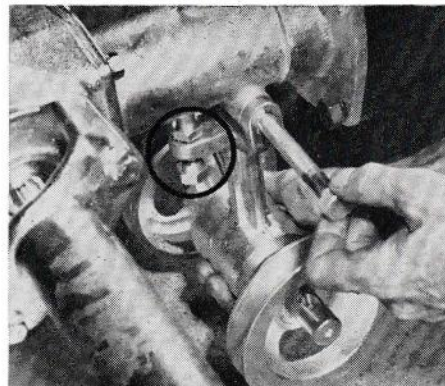

Figure 20
The first step in attaching the 25-inch Gang Units to the 30-inch Reel Mower is to attach the Power Take-off to the Swivel Casting (of the Drive Assembly) as shown in Figure 20.
**BELTS.** Belt tension is adjusted by the Belt Adjusting Screw and lock nut, circled in Figure 20. To increase tension, loosen the Lock Nut and turn the Adjusting Screw clockwise; to decrease tension, turn the Adjusting Screw counter-clockwise. When proper tension is